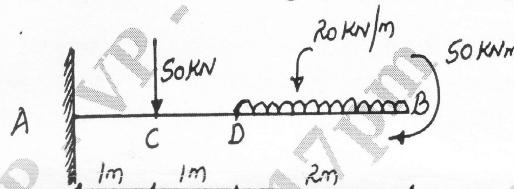

Fig.Q.6(a)
- 6 a. Sketch SFD and BMD for the beam shown in Fig.Q.6(a) indicating salient points.